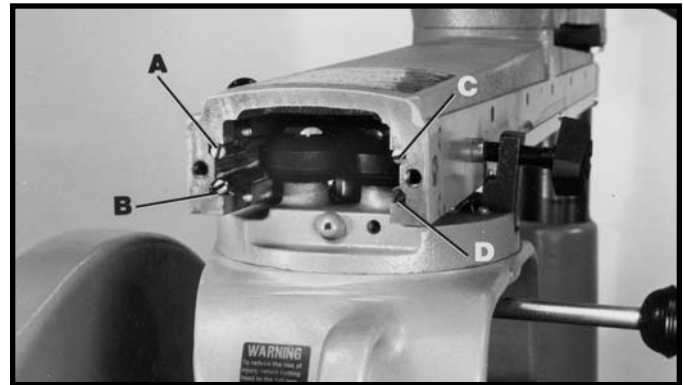
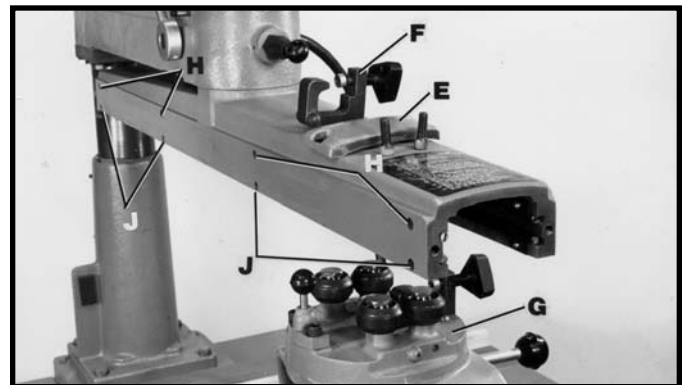

Fig. 34
Fig. 35
Each track rod (A, B, C, D) Fig. 34, can be adjusted individually to present a new bearing surface. Adjust the track rods one at a time as follows:
2. Remove end cap (E) Fig. 35, cross-cut stop (F) and cutterhead assembly (G), from the track-arm as shown in Fig. 35.
3. Loosen series of top screws (H) Fig. 35, just enough to release holding action on the top left track rod (A) Fig. 34. Insert screw driver into slotted end of track rod (A) Fig. 34, and turn slightly right or left. Retighten all top screws (H) Fig. 35.
4. Bottom left track rod (B) Fig. 34, is adjusted in the same manner by loosening series of bottom screws (J) Fig. 35.
5. Adjust the right side track rods (C & D) Fig. 34, in the same manner. **NOTE:** When adjusting bottom right track rod (D) the rip scale must first be removed.